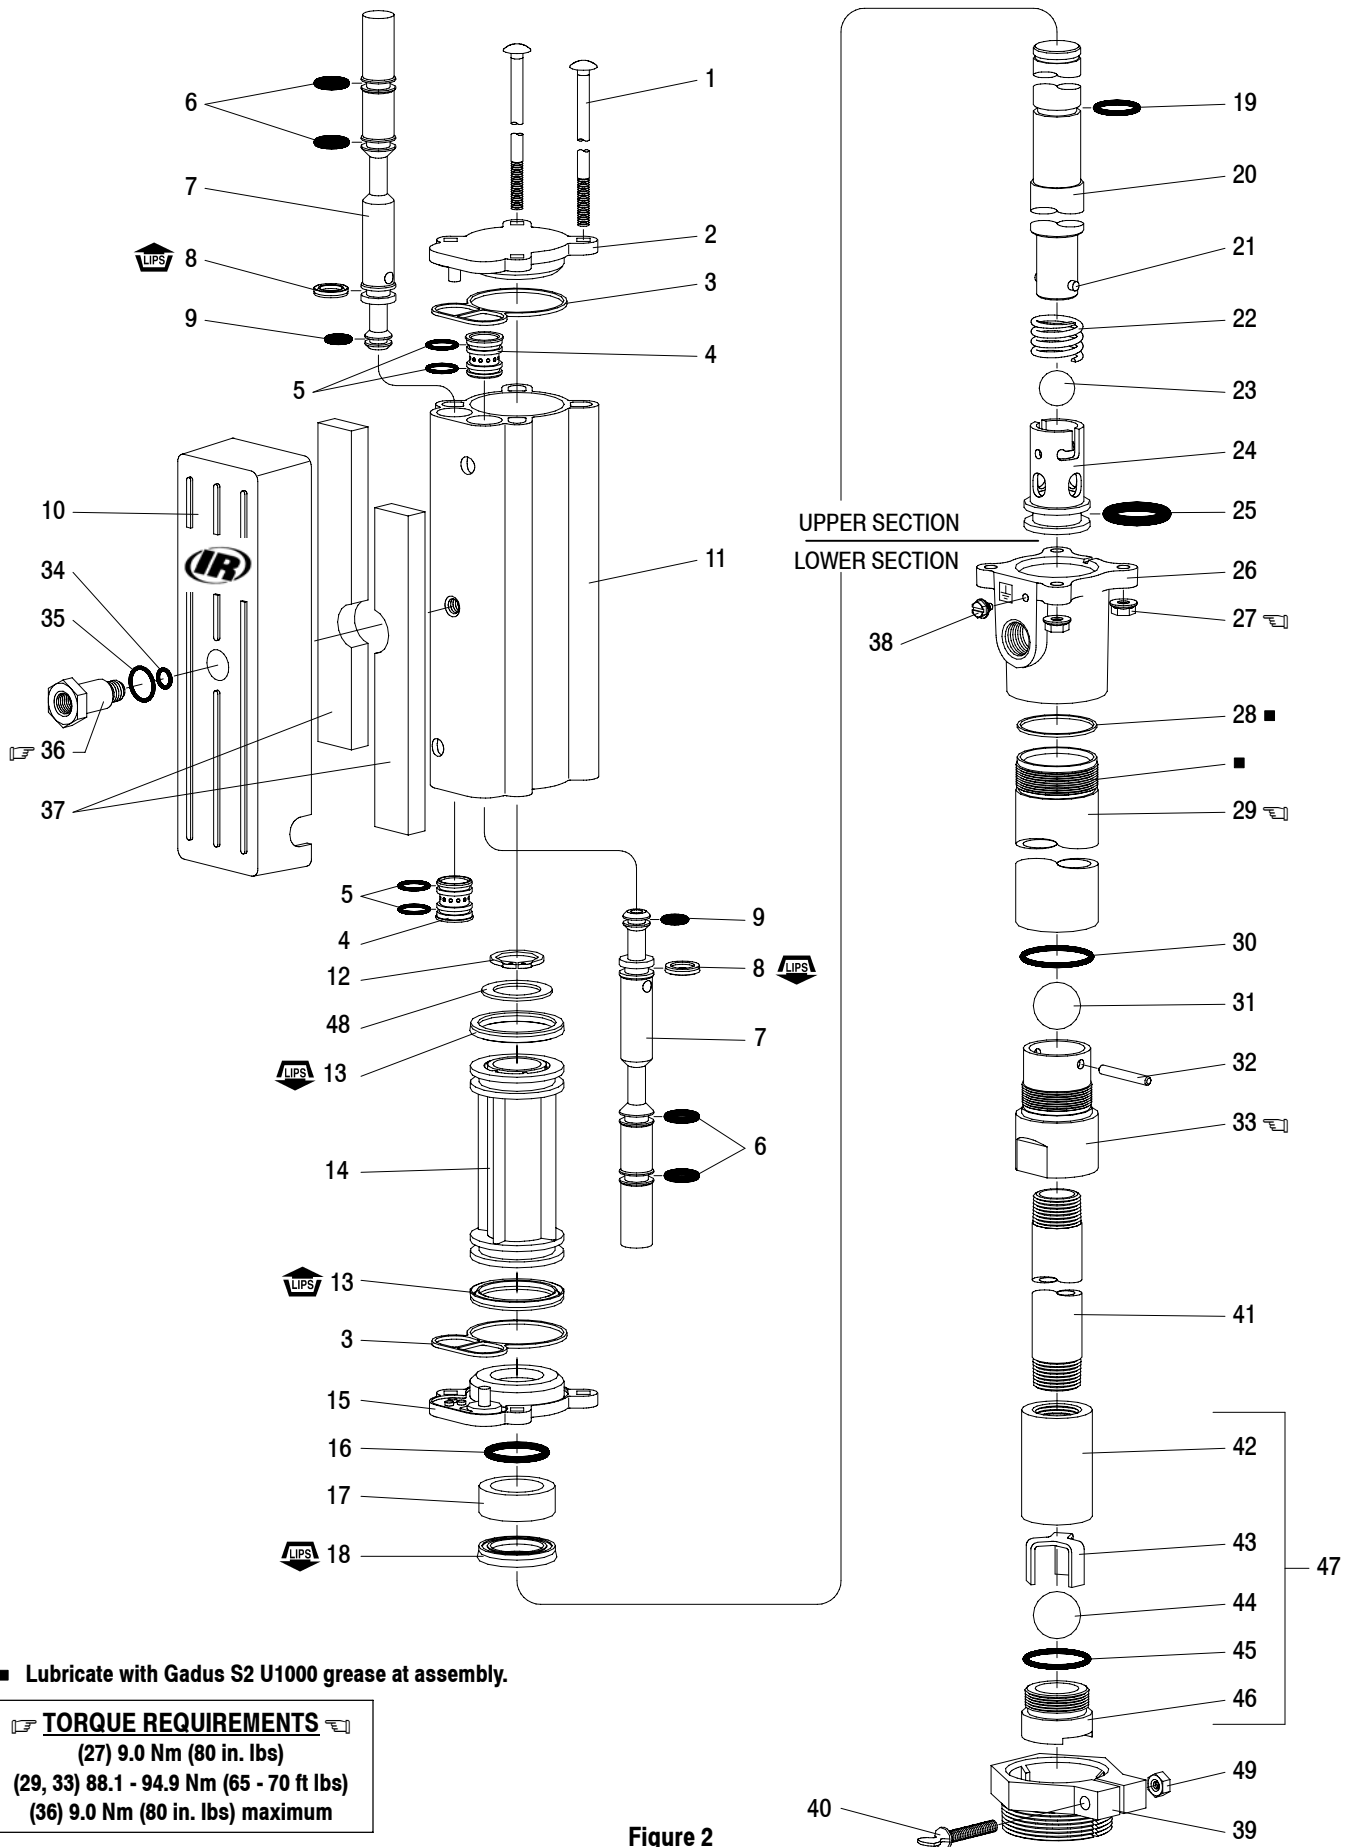

Figure 2
**DISASSEMBLY - All threads are right hand. Refer to figure 2. These procedures are for the installation of repair kit parts. Disconnect air supply and relieve all system pressure prior to servicing.** Carefully remove the parts, inspect parts for damage, nicks or excessive wear and determine if any parts will need replacement.
Note: Refer to the illustration (figure 2) for "U" cup lip seal direction.
1. Replace the seals on both the (7) spools and (4) sleeves.
2. Locate the valve chamber on the (11) cylinder where the 3/8" dia. hole is located and install one of the (4) sleeves. Insert the (7) spool from the opposite end. Next, install the remaining sleeve and spool.
3. Replace the (3) track gasket and install (2) cap.
4. Replace the (13) piston "U" cups (refer to figure 2 for proper orientation). Replace the (19) "O" ring and assemble (14) piston to (20) piston rod and retain with (48) washer and (12) retaining ring.
6. Replace the (3) track gasket and install the (15) cap. Install the (16) "O" ring onto the piston rod, replace (17) bushing and (18) packing.
7. Replace the (25) "O" ring and re-attach the (24) inner check.
8. Slide the pump assembly back into the (26) base / lower pump section. Press the sections together and align the air inlet and pump outlet as required and replace the four (1) bolts and (27) nuts (tighten to 9.0 Nm (80 in. lbs)).